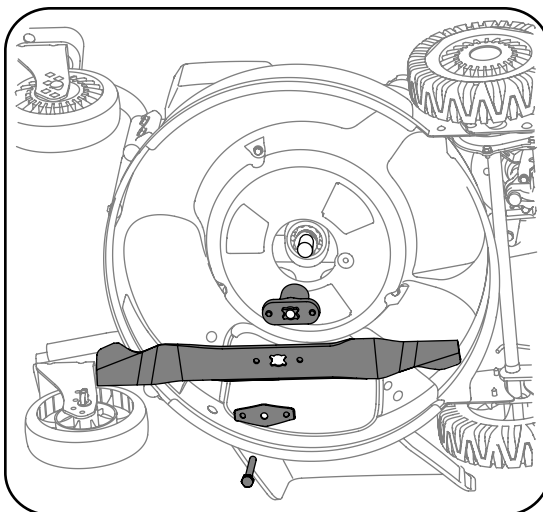

Figure 5-4
2. Remove bolt, blade bell support, blade, and blade adapter from the engine crankshaft. See Figure 5-4.